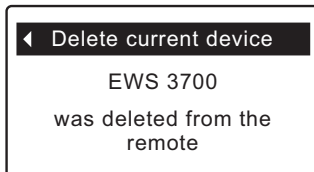

FIG. 80
5. Press the RIGHT (▶) button. The screen shown in Figure 80 will appear.